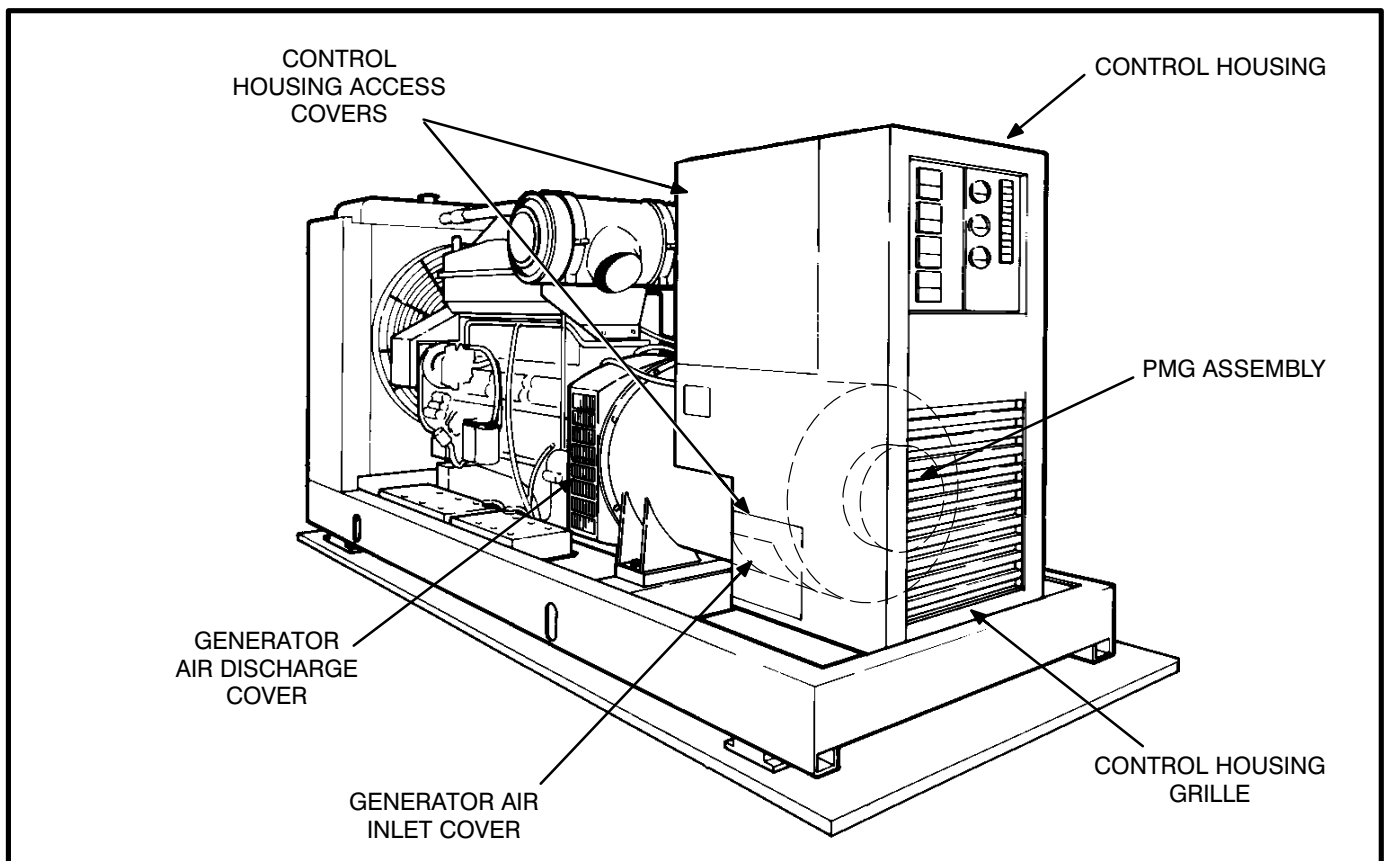

FIGURE 5-7. GENERATOR AND CONTROL HOUSING ASSEMBLY
2. Remove the control housing grille and access covers (see Figure 5-7).
2. Remove the air inlet and discharge panels and access covers from control housing and generator (see Figure 5-7).